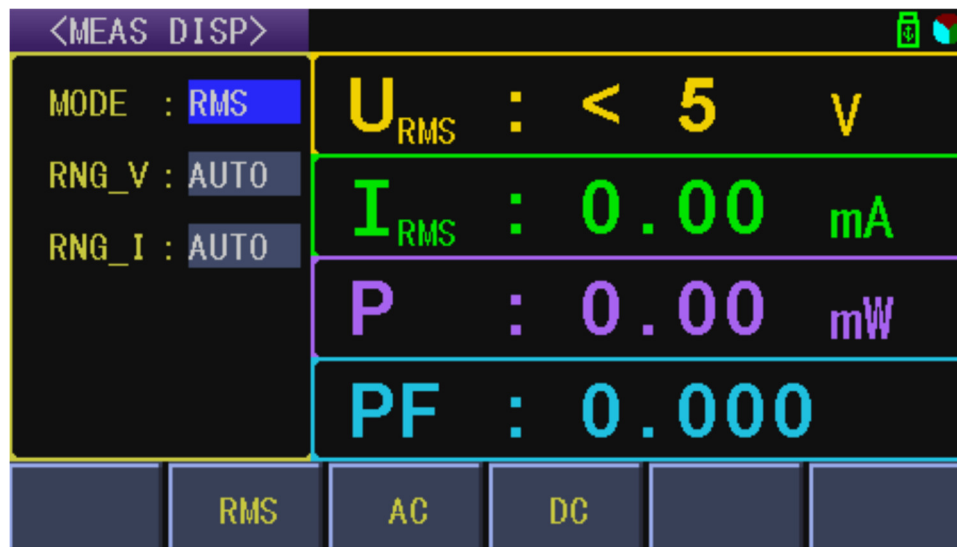

Figure 4-3 Setting measurement mode in Measurement display interface
Note: As shown in Figure 4-3 below, after the cursor moves to the corresponding parameter, parameter function and selection operation of the corresponding soft key area are only compared on this page, and other pages are basically the same as this operation, so for the modification of other page parameter values, please refer to the screenshot description here.
- 1) Move the cursor to the MODE area, and the following soft keys are displayed in the soft key area of the screen, as shown in Figure 4-3.